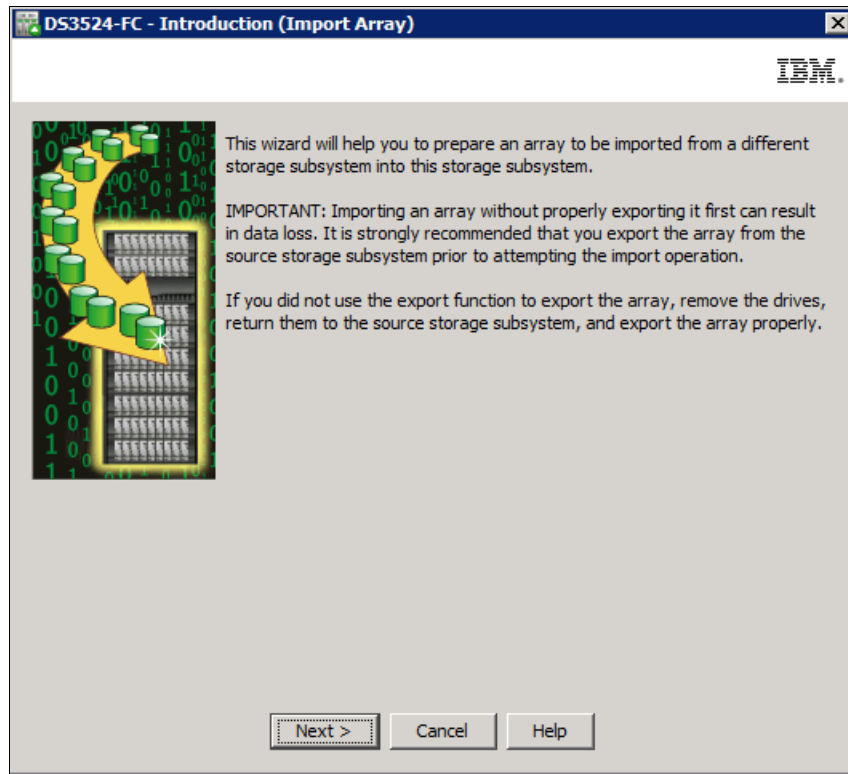

Figure 15-37 Introduction to import the array
2. The wizard opens and guide you through the procedure as shown in Figure 15-37. Click **Next**.